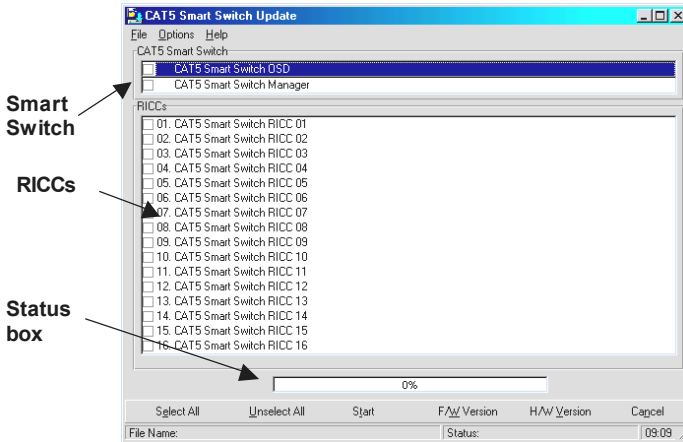

Figure 26 Smart CAT5 Switch Update window
1. Start the Smart CAT5 Update software. The Smart CAT5 Update window appears. See Figure 26.
1. In the **Switch Unit** box, check the OSD option. See Figure 26.